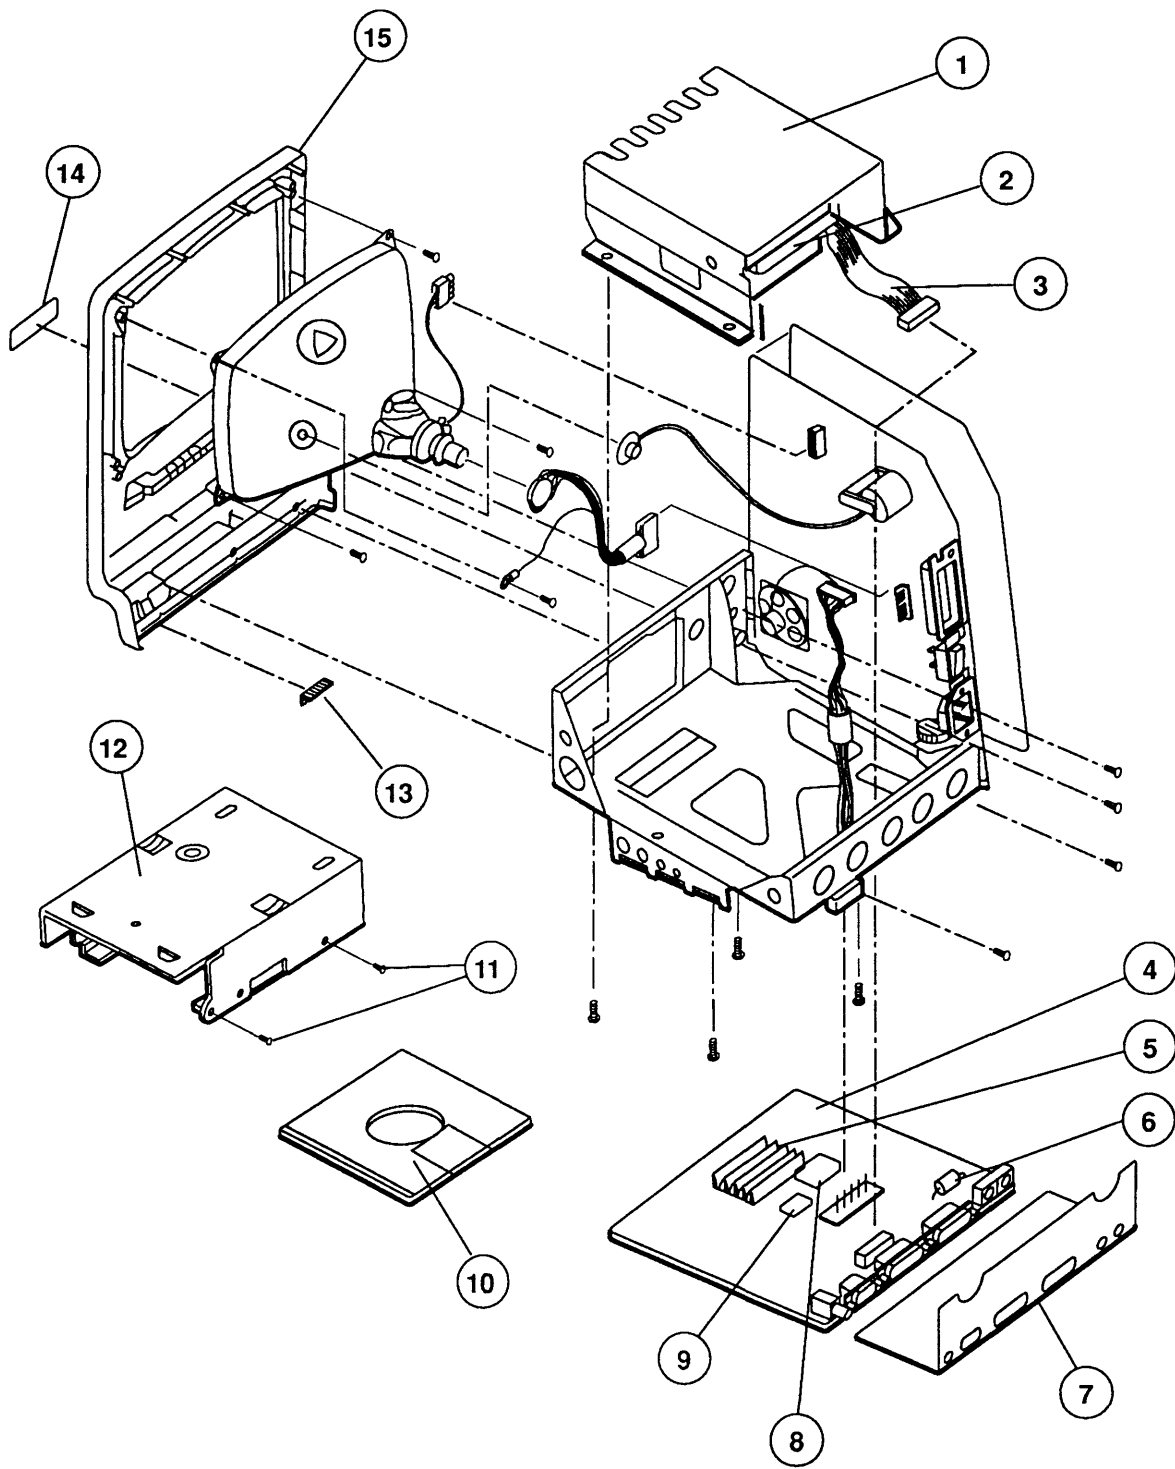

FIGURE 7
□ **MACINTOSH PLUS – EXPLODED VIEW (Figure 7)**